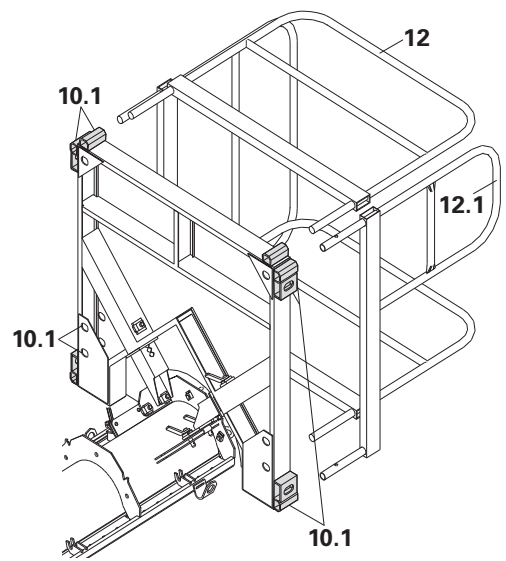

Fig. A2.04
5. Insert Handrails (12) and Access Handrail (12.1) into the holders (10.1). The Platform is now mounted. (Fig. A2.04)